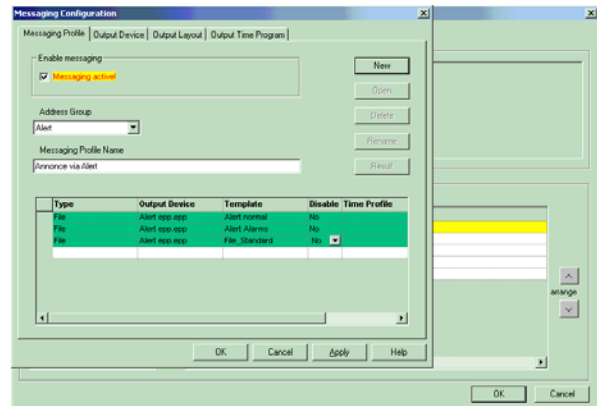

Fig. 7-49 Output medium allocation for Alert
5. Next, in the "Event Publisher Configuration" window, go to the "Assign output medium (Messaging Profile)" tab and activate the option: "Online messaging is active" (see Fig. 7-49).